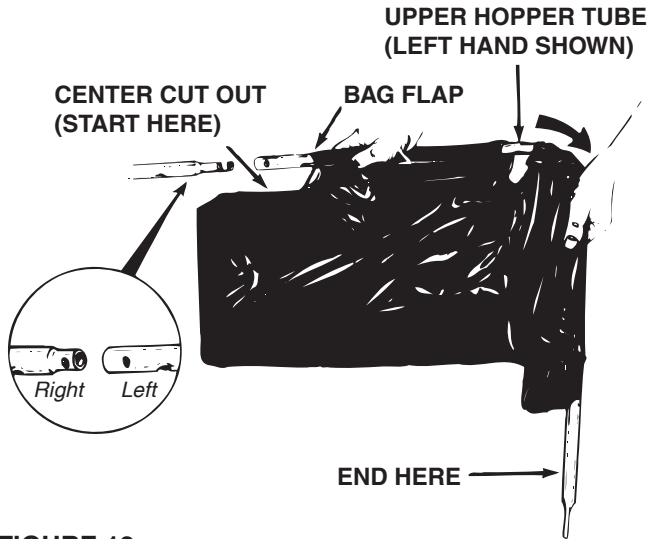

FIGURE 12
1. Insert the left hand upper hopper tube through the stitched flaps of the hopper bag, **starting at the center cut out** in the top of the bag. See figures 12, 13 and 14. Repeat for the right hand upper hopper tube.